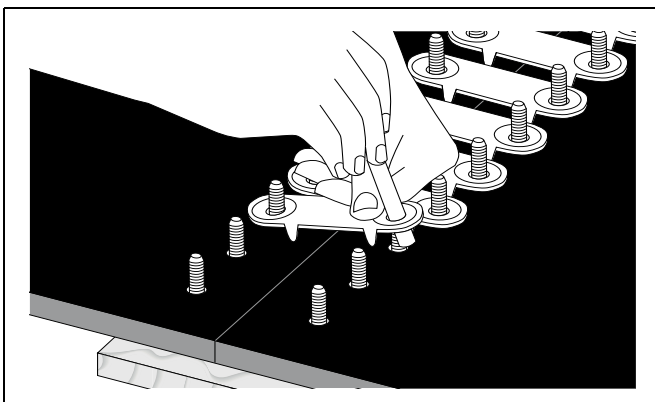

Figure 4I
6. Place top plate over one bolt. Insert Bolthorn Tool through the other plate hole and over the second bolt to pry it into place. *(See Figure 4I.)*